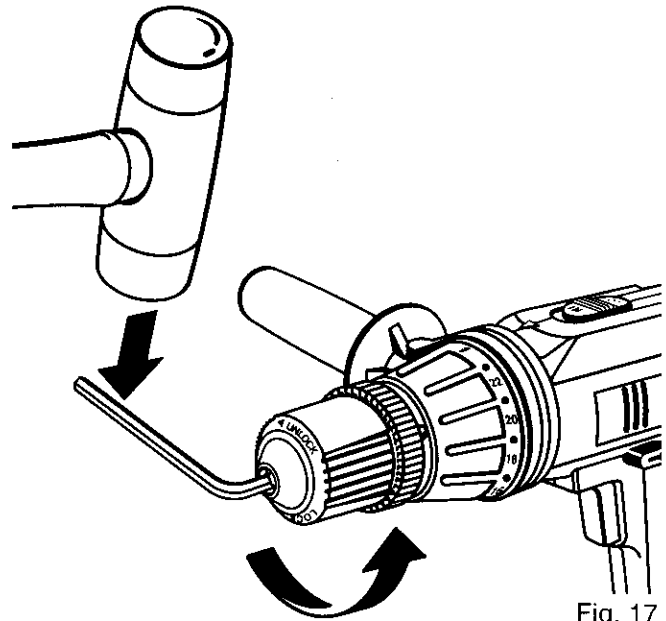

Fig. 17
- Insert hex key wrench in chuck and tighten chuck jaws securely. Tap sharply with a mallet in a counterclockwise direction. This will loosen chuck on the spindle. It can now be unscrewed by hand. *See Figure 17.*